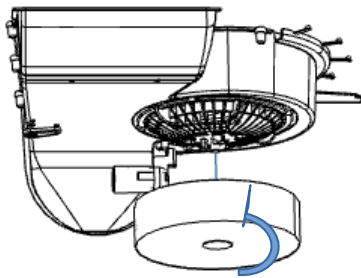
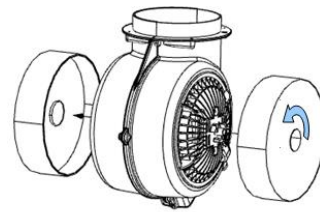

Fig. 29
Fig. 30
The hoods have aluminium filters (Fig. 29) which should be cleaned depending on the intensity of cooking at least once a month. In order to clean the aluminium filter, it must be removed from the body and rinsed with warm water with the addition of a grease dissolving agent or in a dishwasher, after being placed in a vertical position. When cleaning the aluminium filter, take care not to damage the mesh. After washing and drying, insert the filter in its place in the hood.
3. Remove the carbon filter, which is located inside the exhaust hood on the motor housing (P30, Fig. 29), or on both sides of it (T300, Fig. 30) rotating it counter-clockwise.